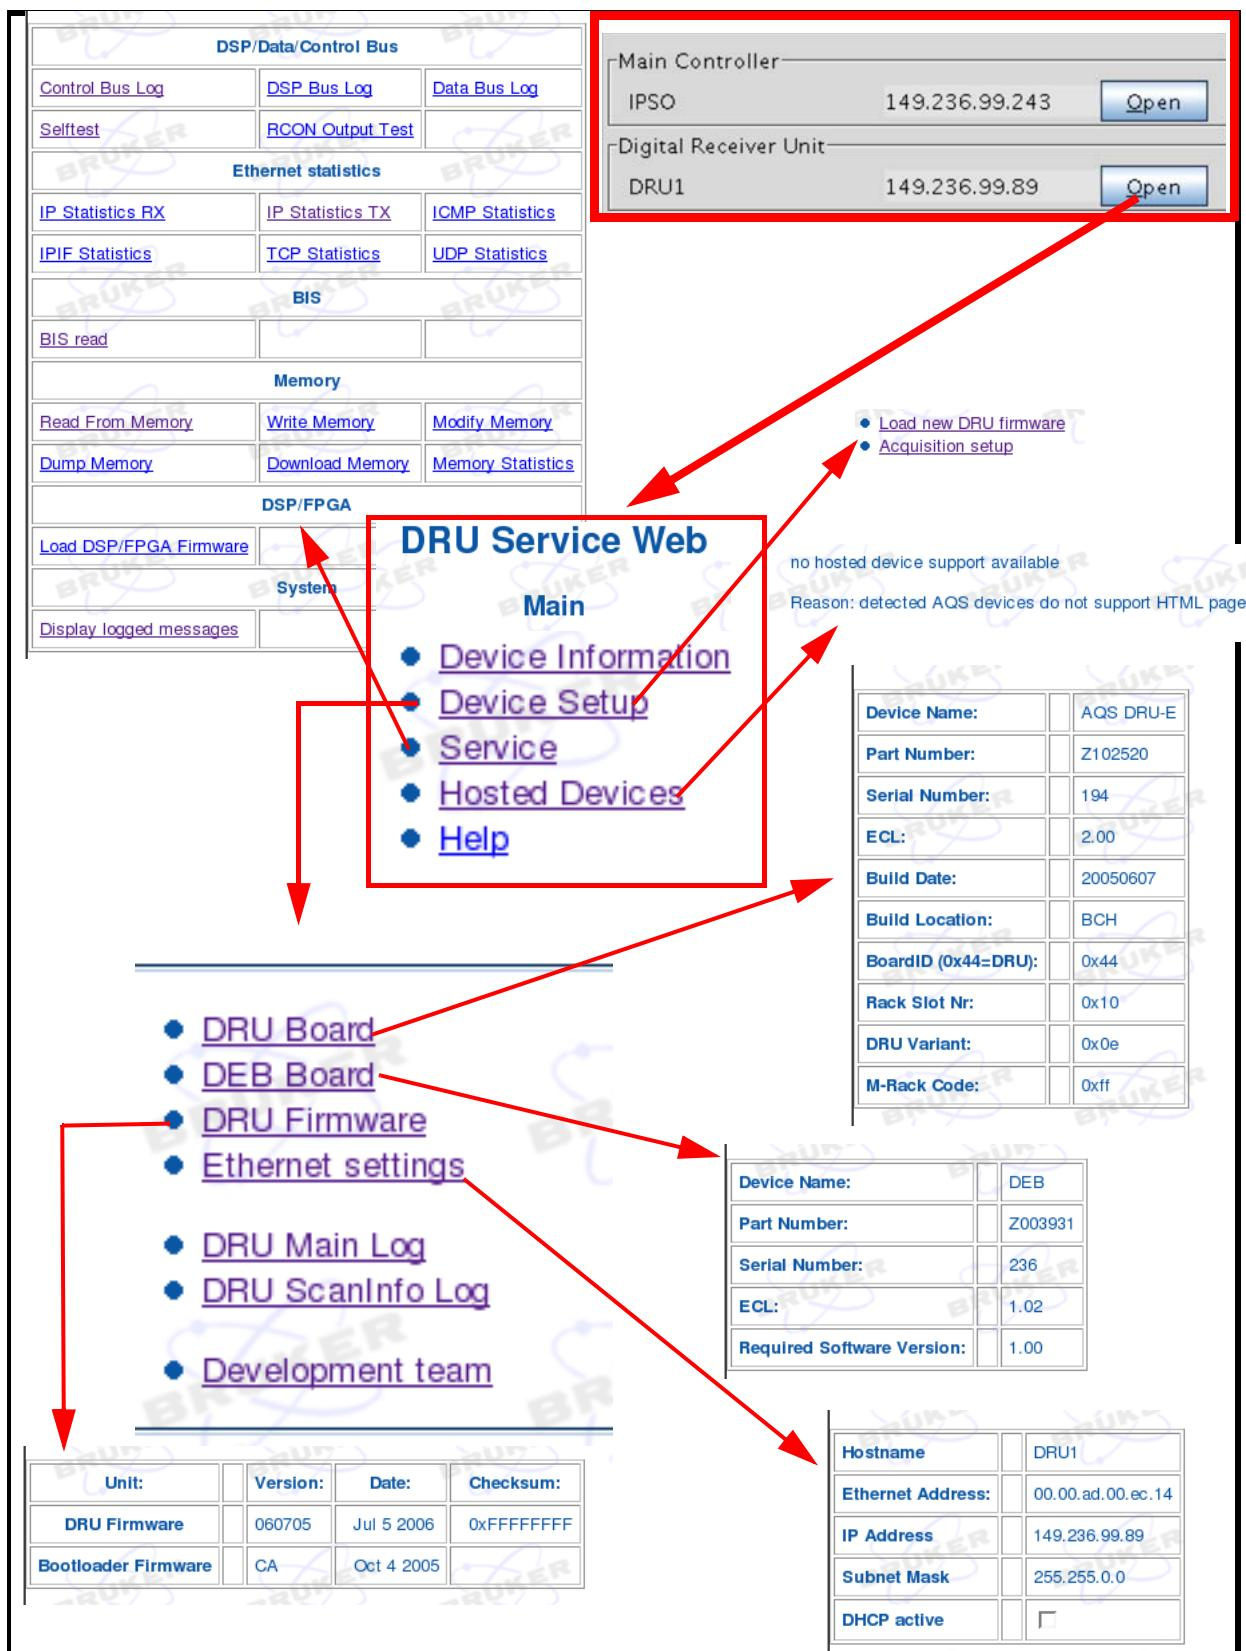

Figure 15.4. Aspects of the DRU service web
3. web page access. An extensive web page has been developed which can be opened by clicking on DRU after entering the 'ha; command. **Figure 15.4.** is a summary of some of the features. From this menu it is possible to
By virtue of the direct Ethernet link to the host workstation downloading new firmware to the DRU and DRU-E can now be done via any standard web browser. This can also be used to access production info such as serial number, ECL level etc.see Figure 15.4.